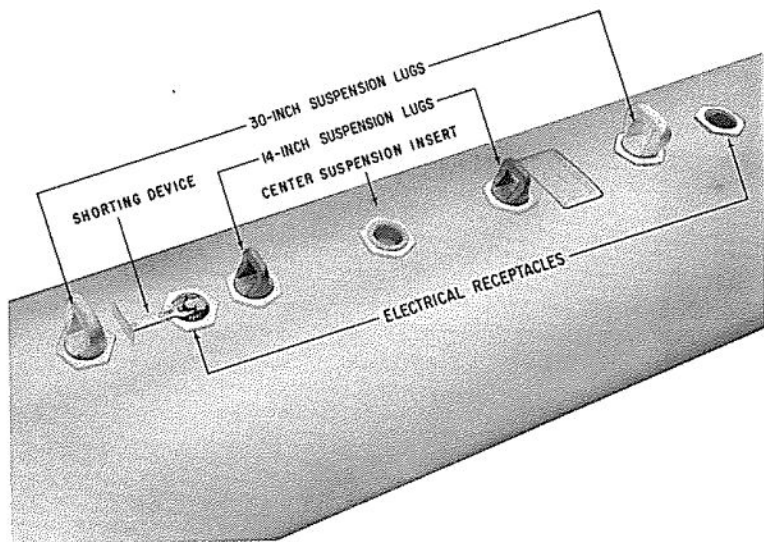

FIG. 15. Section of Launcher Showing Suspension Lugs.
The LAU-10/A launcher is a white-painted container with multiple-suspension lugs (Figure 15) compatible with most Navy and Air Force tandem-suspension 14- and 30-inch bomb racks, and the British single-suspension bomb racks.
5. For racks with only 14-inch suspension (Aero 15 series), remove the 30-inch suspension lugs (BuAer Dwg. 54A46C358) from the LAU-10/A launcher (refer to Figure 15).
6. For all other racks, remove the 14-inch suspension lugs (BuOrd Dwg. 1252628) (refer to Figure 15).